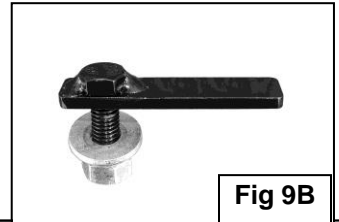
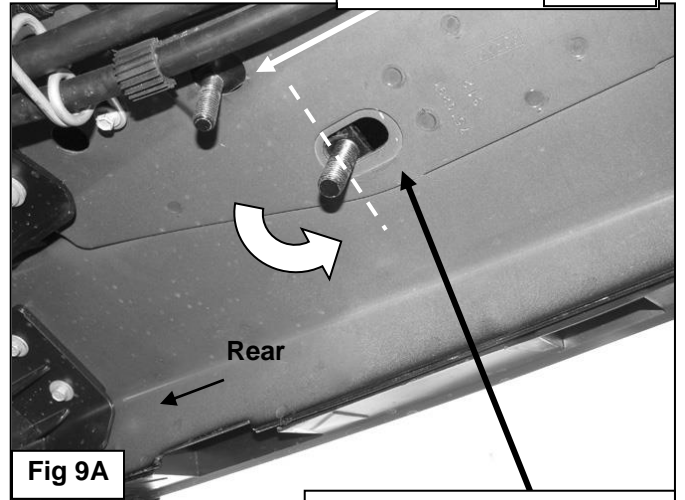

Fig 9B
Fig 9A
7. Move toward the rear location. Locate the oval and round holes in the floor panel toward the rear of the vehicle, **(Figure 9A)**. Insert (1) 10mm x 35mm Bolt Plate into the round hole, **(Figure 9B)**. Insert (1) 12mm x 40mm Long Bolt Plate into the oval hole next to the pinch weld, **(Figure 9C)**. Rotate the 12mm Bolt Plate 90-degrees so that the plate is across the oval hole.